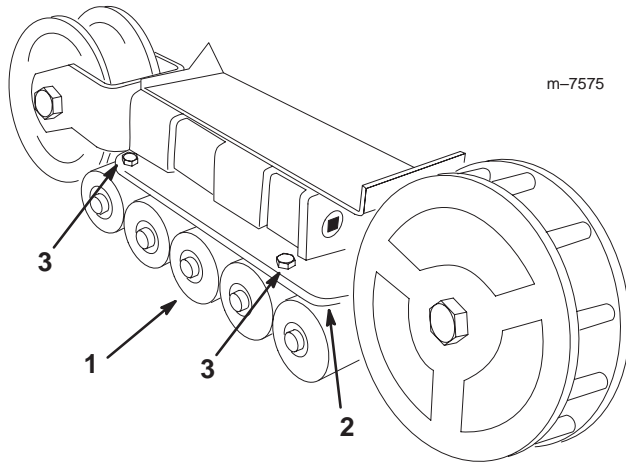

Figure 48
2. Remove the 4 bolts securing each lower track guide which contains the road wheels, and remove them (Fig. 48).